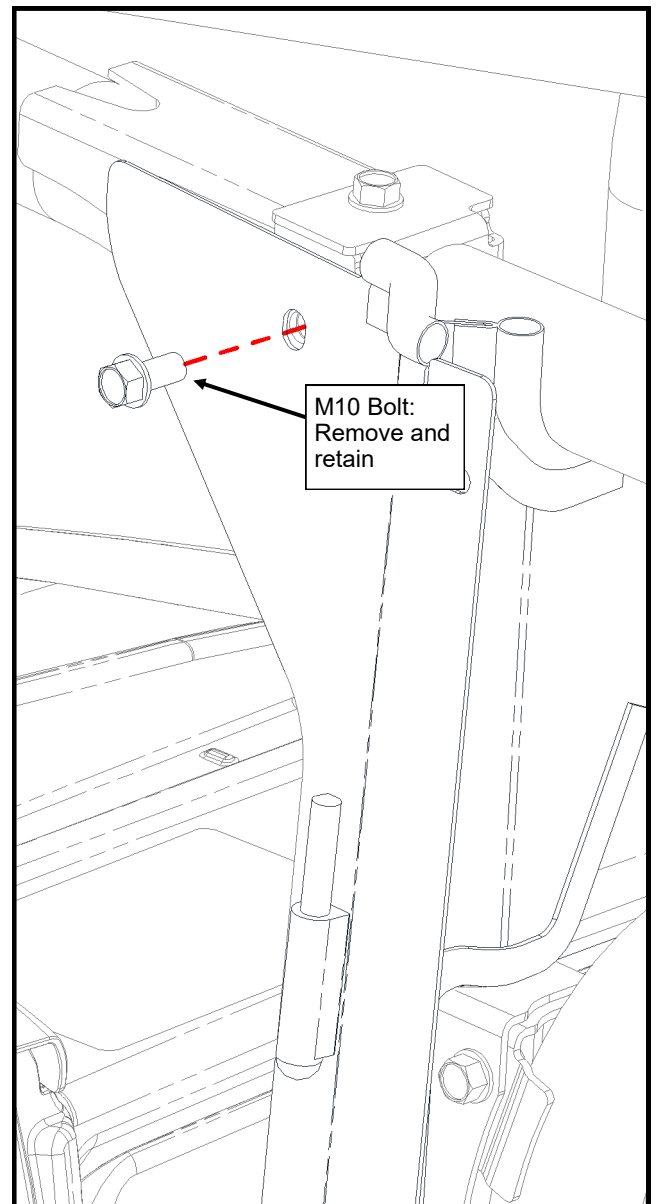

Figure 6.2: B-Pillar Upper M10 Bolt
- 6.2 For each side, remove and retain the M10 bolt from the side of the ROPS, just forward of the center pillar (see Figure 6.2). These bolts will be used later to secure the front side headers.